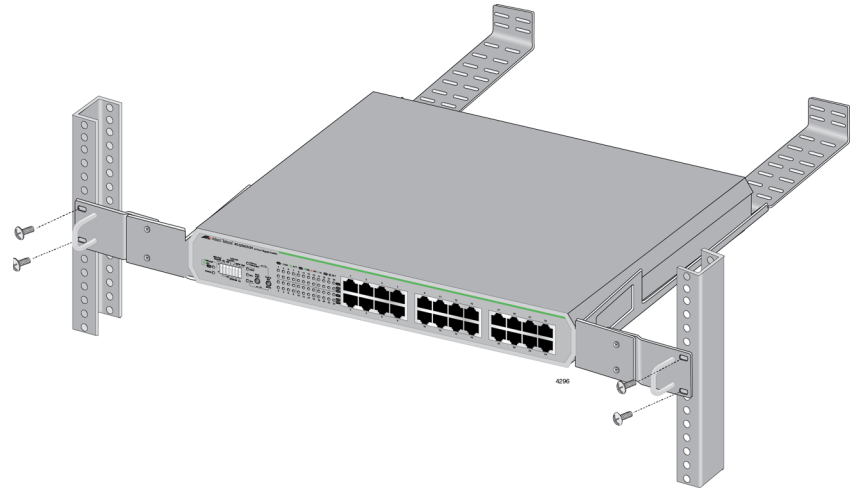

Figure 25. Attaching the Switch to Equipment Rack
8. Mount the switch in a standard 19-inch equipment rack with four equipment rack screws as shown in Figure 25.